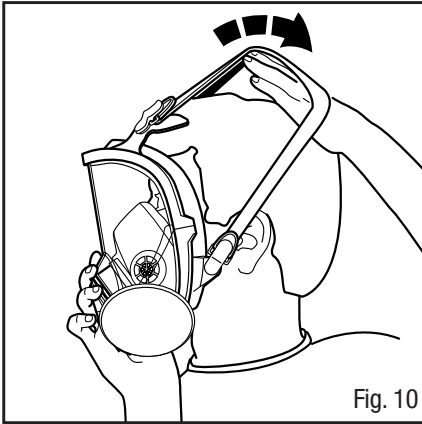

Fig. 10
1. Fully loosen all four head straps. With one hand pull hair back out of facepiece sealing area. Place chin in the respirator chin cup. While holding the facepiece in place, pull the head harness to back of head (Fig. 10).